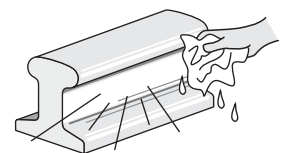

FIGURE 3
- Clean the rail surface and bond terminals. Scrape off excess dirt and grease, and wipe away any remaining residue using a clean rag saturated with a railroad approved solvent. **See Figure 3.** The cable and rail surface must be dry prior to welding!